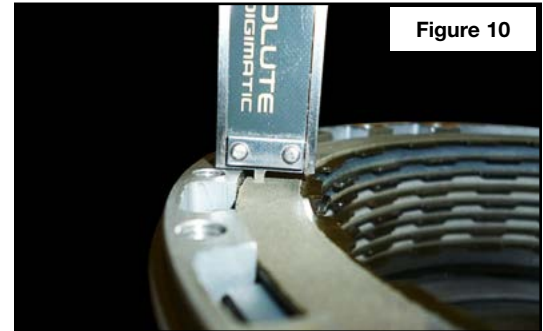

Figure 10
4. With the clutch pack installed, measure the clearance from the top friction to the end face of the housing. Measure in multiple locations to ensure an accurate reading. Clearance should be between .050" and .060" (**Figure 10**). Adjust clearance by substituting different thickness steel plates.